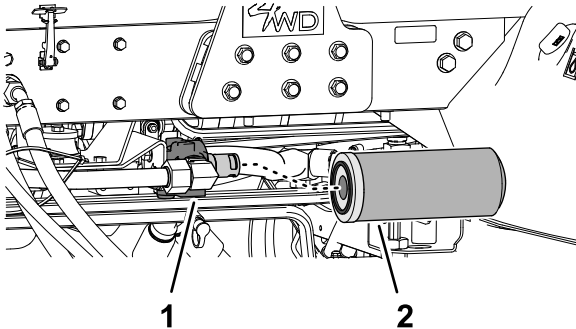

Figure 117
1. Clean the area around the return filter and filter head (Figure 117).